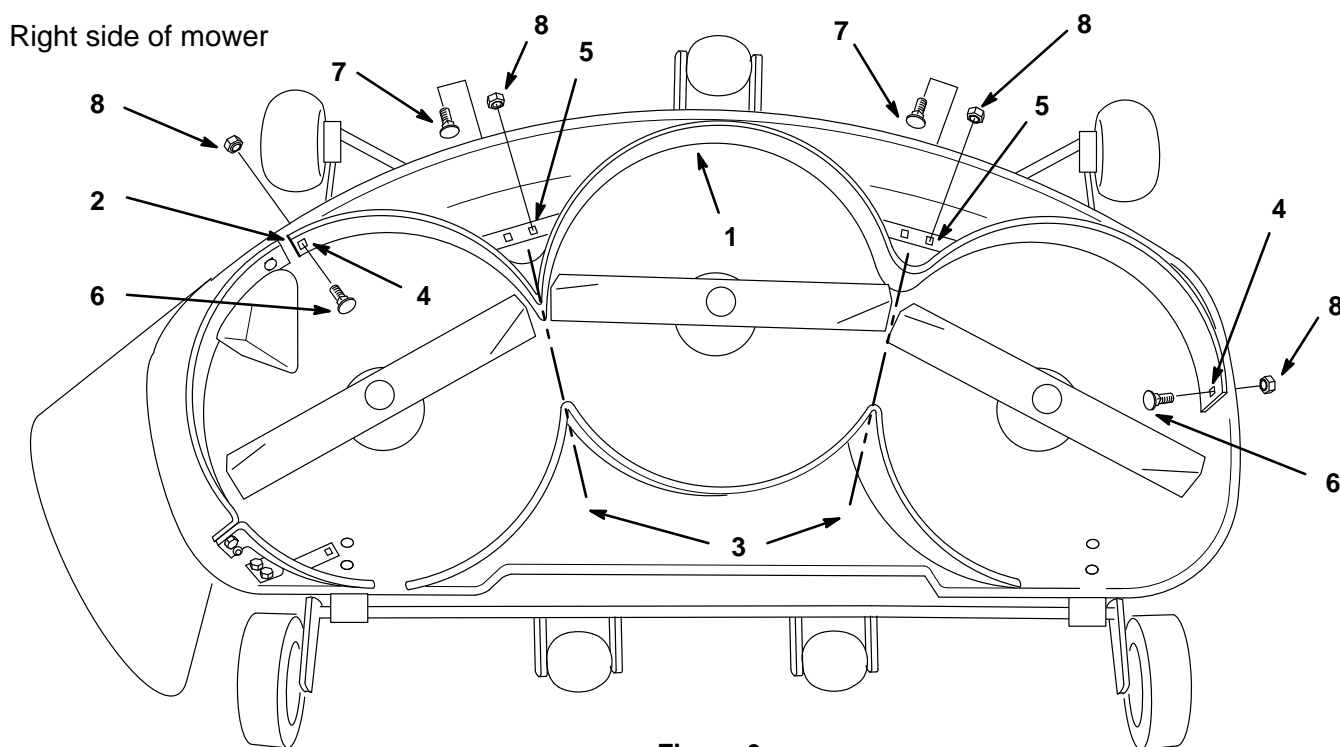

Figure 6
9. Place front baffle inside mower and align with front contour of mower and center lines between blades. Clamp left and right sides (Fig. 6).
10. Using the baffle as a guide, drill (2) 11/32" holes in the mower at the ends of baffle (Fig. 6).
11. Select one of the two holes in the mounting brackets (Fig. 6). Using the baffle as a guide, drill (2) 11/32" holes in the mower at the mounting brackets (Fig. 6). File these holes in the mower square, to accept the carriage bolt heads (Fig. 6).
12. Place (4) 5/16-18 x 3/4" (19 mm) carriage bolts with heads on the inside of the ends and on top at the mounting brackets as shown (Fig. 6). Secure with 5/16" locknuts (Fig. 6).